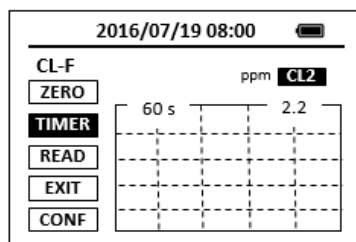

Figure 7. Single Timer Method
Most of colorimetric methods have only one timing step. As an example, in the DPD free chlorine method, it takes one minute for the DPD powder reagent to completely react with chlorine in the water sample. The DPD free chlorine method has a single one-minute timing step. Figure 7 shows the main page of a method with a single timing step.
1. Place the sample vial filled with the water sample in the SP-800 sample vial compartment and press the **ZERO** button. The SP-800 will display the page shown in Figure 7.